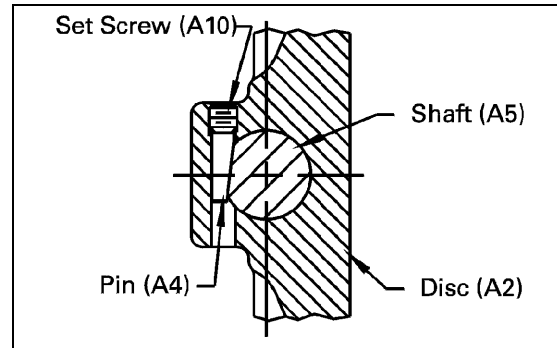

Figure 5—Disc-to-Shaft Connection on 16"
- On size 16", align and center the flat on the shaft with the tapped hole in the disc. Insert the pin (A4) into the mating hole in the disc (A2) so that the flat on the pin is centered on the flat on the shaft. Tap the pin firmly into position with a hammer and punch until the hammer bounces back when the pin is struck. Apply one bead of Loctite 242 to the threads of set screw (A10) and one bead along half the depth of the threads in the tapped hole above the pin. Tighten the set screw to 75±5 ft. lbs. See Figure 5.